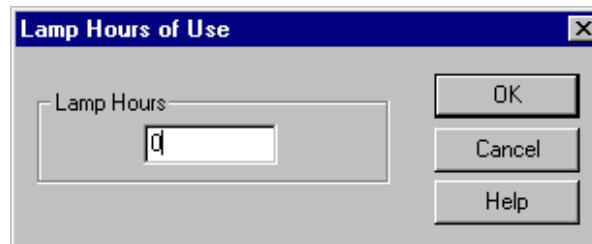

Figure 4.31 Lamp Hours of Use Dialog
21. Select **Control | Diagnostics | Set Lamp Hours**. The Lamp Hours of Use dialog box appears as shown in Figure 4.31.